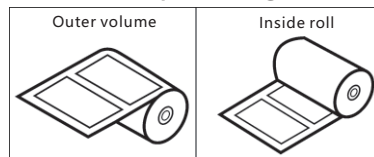

Figure 7
2. As shown in Figure 7, some media rolls are externally rolled, and some are internally rolled. As shown in the figure below, both types of media need to be loaded with the printing side facing up.